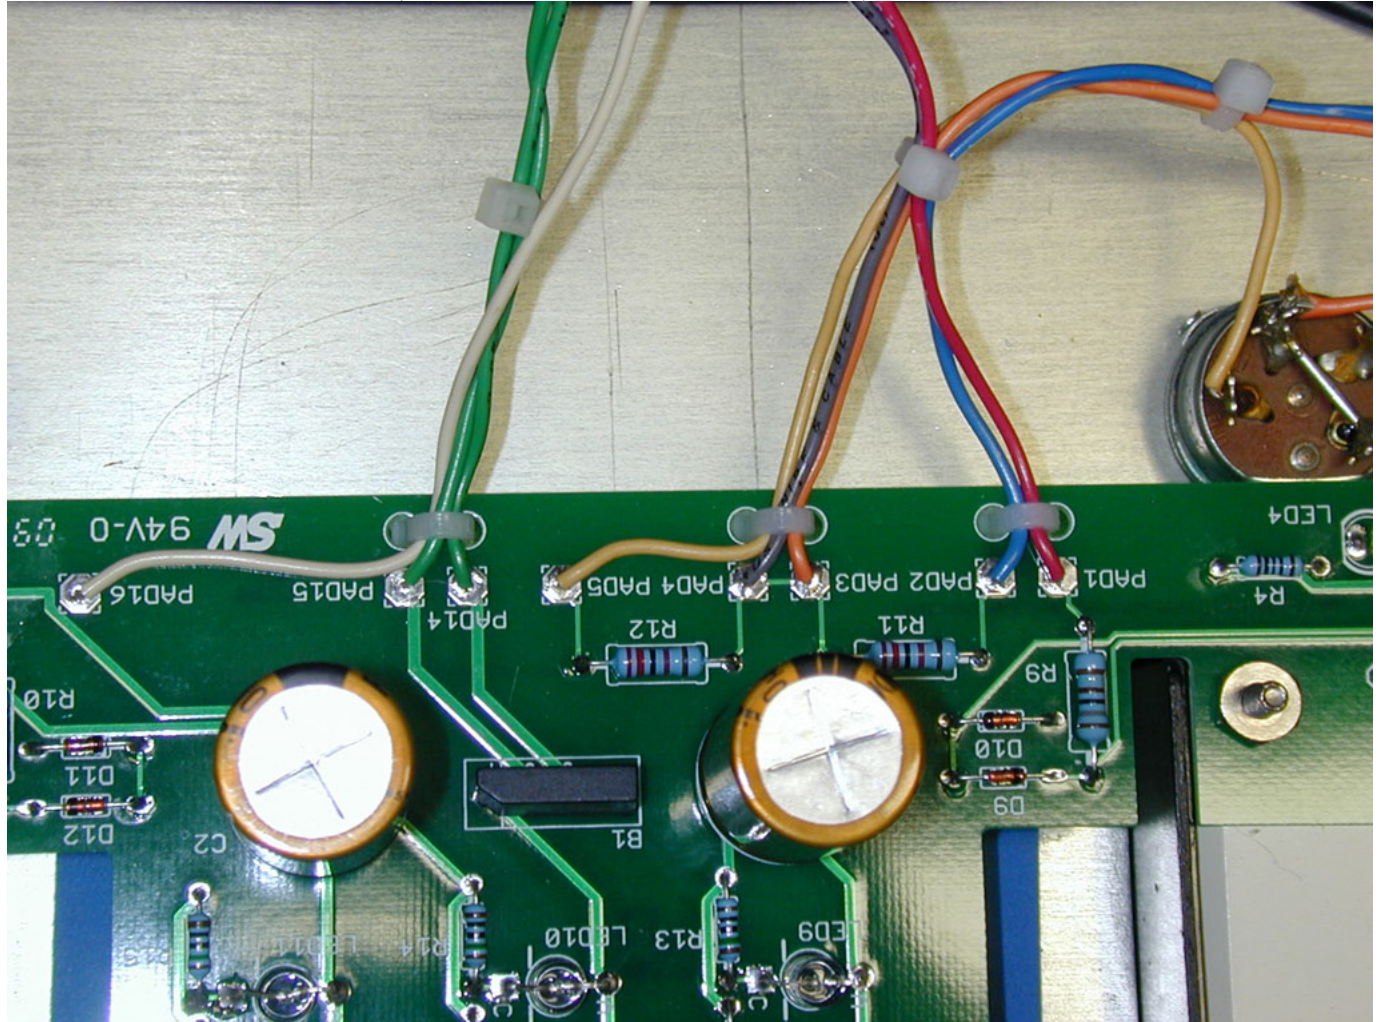

Figure 17. Amplifier Lead Wire Attachment and Strain Relief
14. [] Using your soldering station, carefully solder the eight amplifier wires to the LED Light Board at the locations labeled PAD1, PAD2, PAD3, PAD4, PAD5, PAD 14, PAD15 and PAD16 as shown below in Figure 17. The illustrations show these entering from the component side (silkscreen side) of the board and being soldered on the solder side (non-silkscreen side) of the board in order to mimic the assembly of the original light board. The two green wires get soldered first to PAD14 and PAD15. These are AC wires so polarity does not matter, both wires are equivalent and either can be soldered to PAD14 or PAD15. Next solder the red, orange, yellow, blue, gray and white wires to PAD1, PAD3, PAD5, PAD2, PAD4 and PAD16 respectively. **DO NOT MIX UP THE WIRING ORDER OR THE AMPLIFIER WILL NOT WORK PROPERLY OR DAMAGE WILL OCCUR TO THE AMPLIFIER. NOTE WELL THAT YOUR PL700B MAY BE WIRED WITH DIFFERENT COLOR CODES THAN SHOWN BELOW DEPENDING ON THE BUILD VINTAGE AT PHASE LINEAR.**
- 15. [] Using the ty-raps supplied in the kit, strain relieve the wires to the board as shown in Figure 17 to protect the solder joints. Carefully clip any excess wire length, ensuring that you do not drop any of the clippings into the amplifier circuitry.
24. [] Dress the amplifier wires neatly using ty-raps provided to neaten up your installation as shown in Figure 17 and 18.